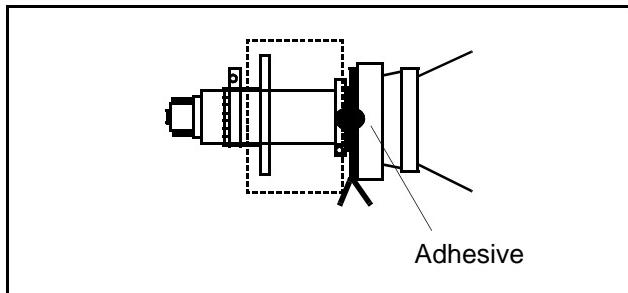

Figure 20. Adhesive Removal
3. Remove adhesive from centering tabs and set centering tabs for zero correction. (Figure 20)